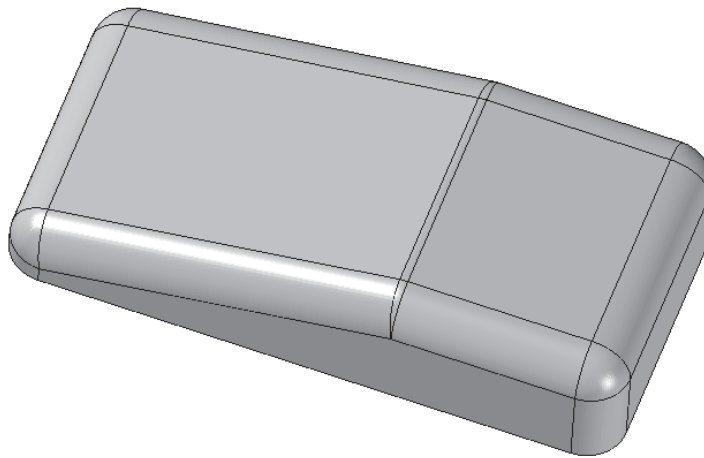

Figure 7-58 Viewing the model from the bottom after adding the draft and round
- c. Add rounds to the sharp edges of the model, refer to Figure 7-58.
6. Add a round of radius 8 to the sharp edges of the model, as shown in Figure 7-58.